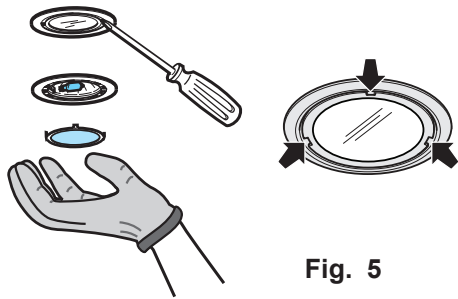

Fig. 5
- Extract the lamp cover by using a small flat screwdriver or similar tool as a lever. **Fig. 5**